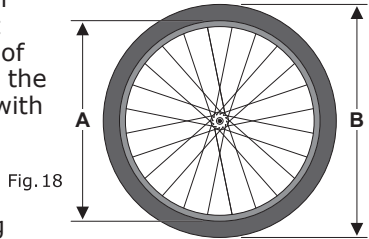
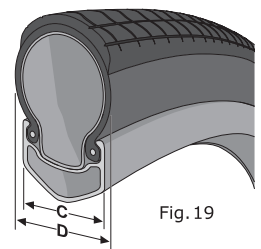

Fig. 18
Fig. 19
**3. TIRE AND RIM WIDTH/DIAMETER:** Wheel rims and tires come in a wide range of diameters [Fig. 18] and widths [Fig. 19]. The nominal diameter of the rim (A) must match the nominal diameter of the tire (B), and the width of the rim (C) must be compatible with the width of the tire (D).